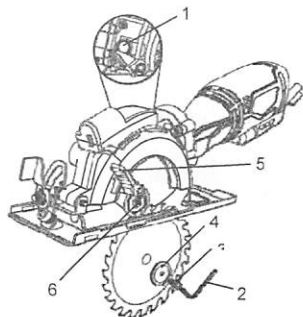

Fig. 1
1. Press inward on the shaft locking button (1) (Fig. 1).
2. Insert the 5mm hex key (2) into the blade screw (3). While pressing inward on the shaft locking button, rotate the hex key clockwise until the shaft locking button engages with the blade shaft. Continue turning the hex key clockwise and remove the blade screw and the outer blade flange (4).
3. Rotate the blade guard lever (5) counter clockwise as far as it will go.
4. If there is already a blade installed on the saw, lift the blade off the spindle (6) and slide it out through the slot in the sole plate.